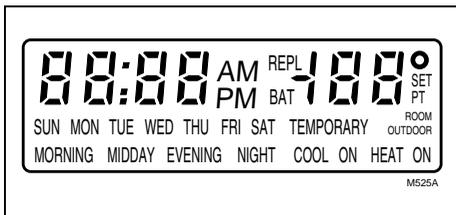

Fig. 13—All segments on display.
1. Press AHEAD and BACK keys at the same time. While holding keys down, all segments of the display should be on (Fig. 13).